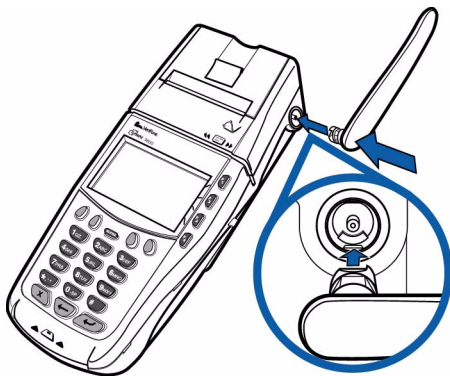

Figure 9 Antenna Installation
- 2 Align the respective “notch” inside the antenna to the key in the terminal (Figure 9).
- 2 Align the respective notch inside the new antenna to the key in the antenna port on the terminal (Figure 9).